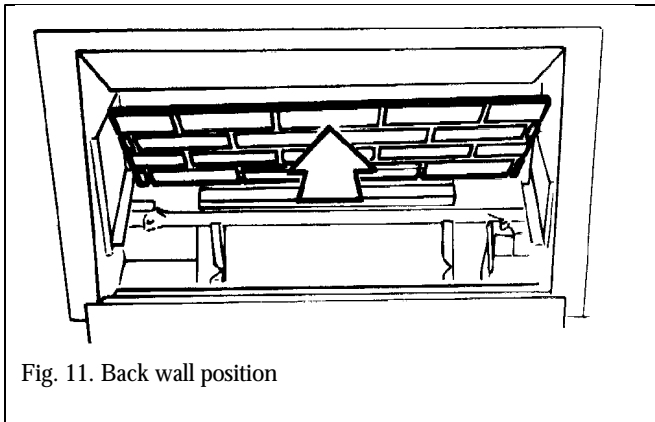

Fig. 11. Back wall position
- 12.1** Place the ceramic back wall in position centrally at the back of the firebox. It must rest on the metal ledge at the back of the firebox (see figure 11).